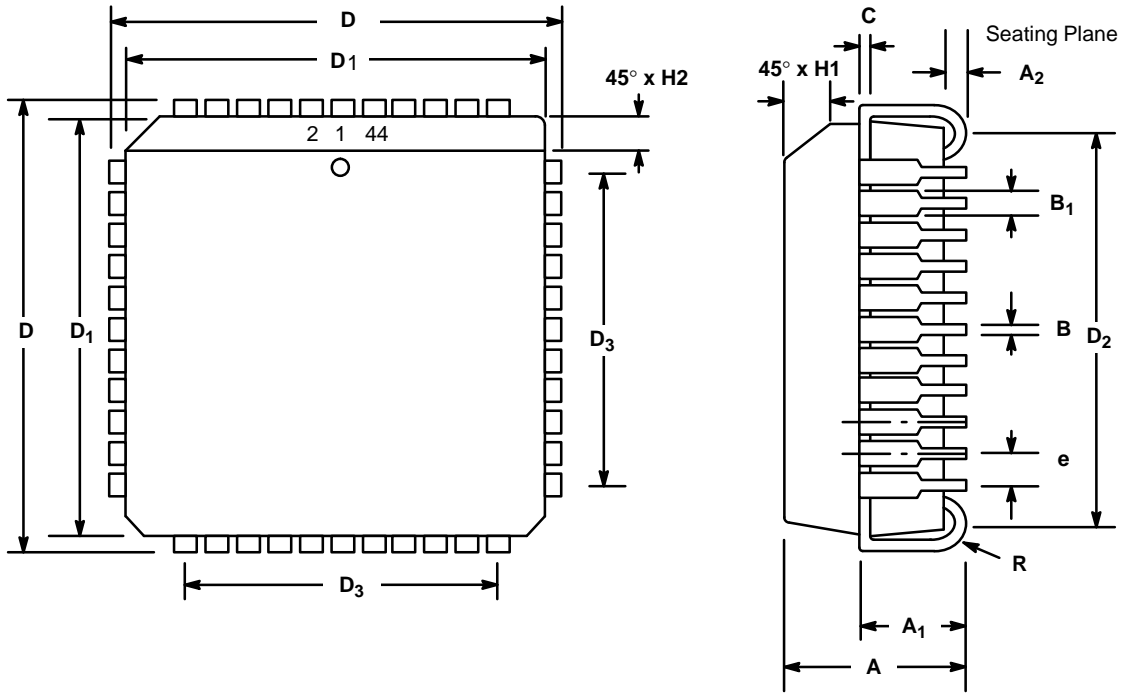

**Figure 9. Circuit for Determining Typical Analog Output Pulse Response**
**Graph 9. Typical Response of the MP7610 Family Analog Output to a Current Pulse with  $C_L=500pF, 5nF, 50nF, 500nF$  (See Figure 9. above)**